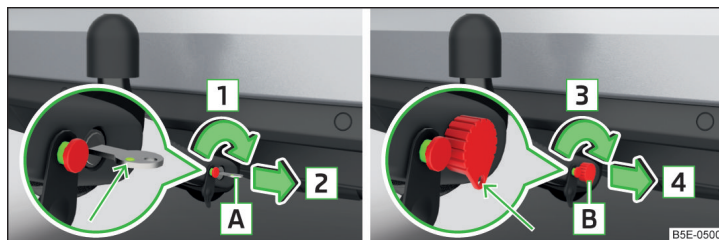

Fig. 292 Locking the lock: Key version 1/Key version 2
- Turn key **A** in the direction of arrow **1** so that the green marking is pointing upwards » Fig. 292.
- Turn the key **B** in the direction of arrow **3** so that the conclusions release points down » Fig. 292.